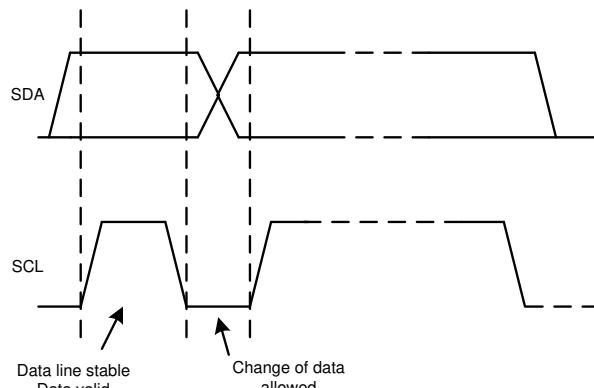

图 7-20. Bit Transfer on the I²C Bus
2. The controller then generates the SCL pulses, and transmits the 7-bit address and the read/write direction bit (R/W) on the SDA line. During all transmissions, the controller makes sure that data are valid. 图 7-20 shows that a valid data condition requires the SDA line to be stable during the entire high period of the clock pulse. All devices recognize the address sent by the controller and compare the address to the respective internal fixed address. Only the target device with a matching address generates an acknowledge by pulling the SDA line low during the entire high period of the 9th SCL cycle (see also 图 7-18). When the controller detects this acknowledge, the communication link with a target has been established.